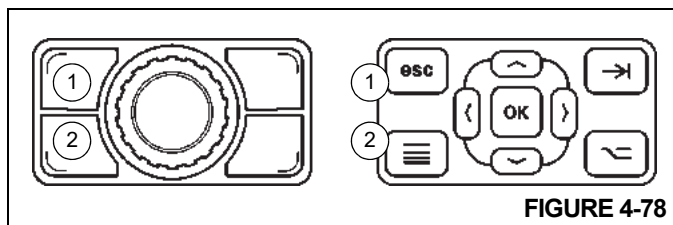

FIGURE 4-78
To exit the Camera View Screen, press the Main Screen Button (1, Figure 4-78) or Menu Screen Button (2).